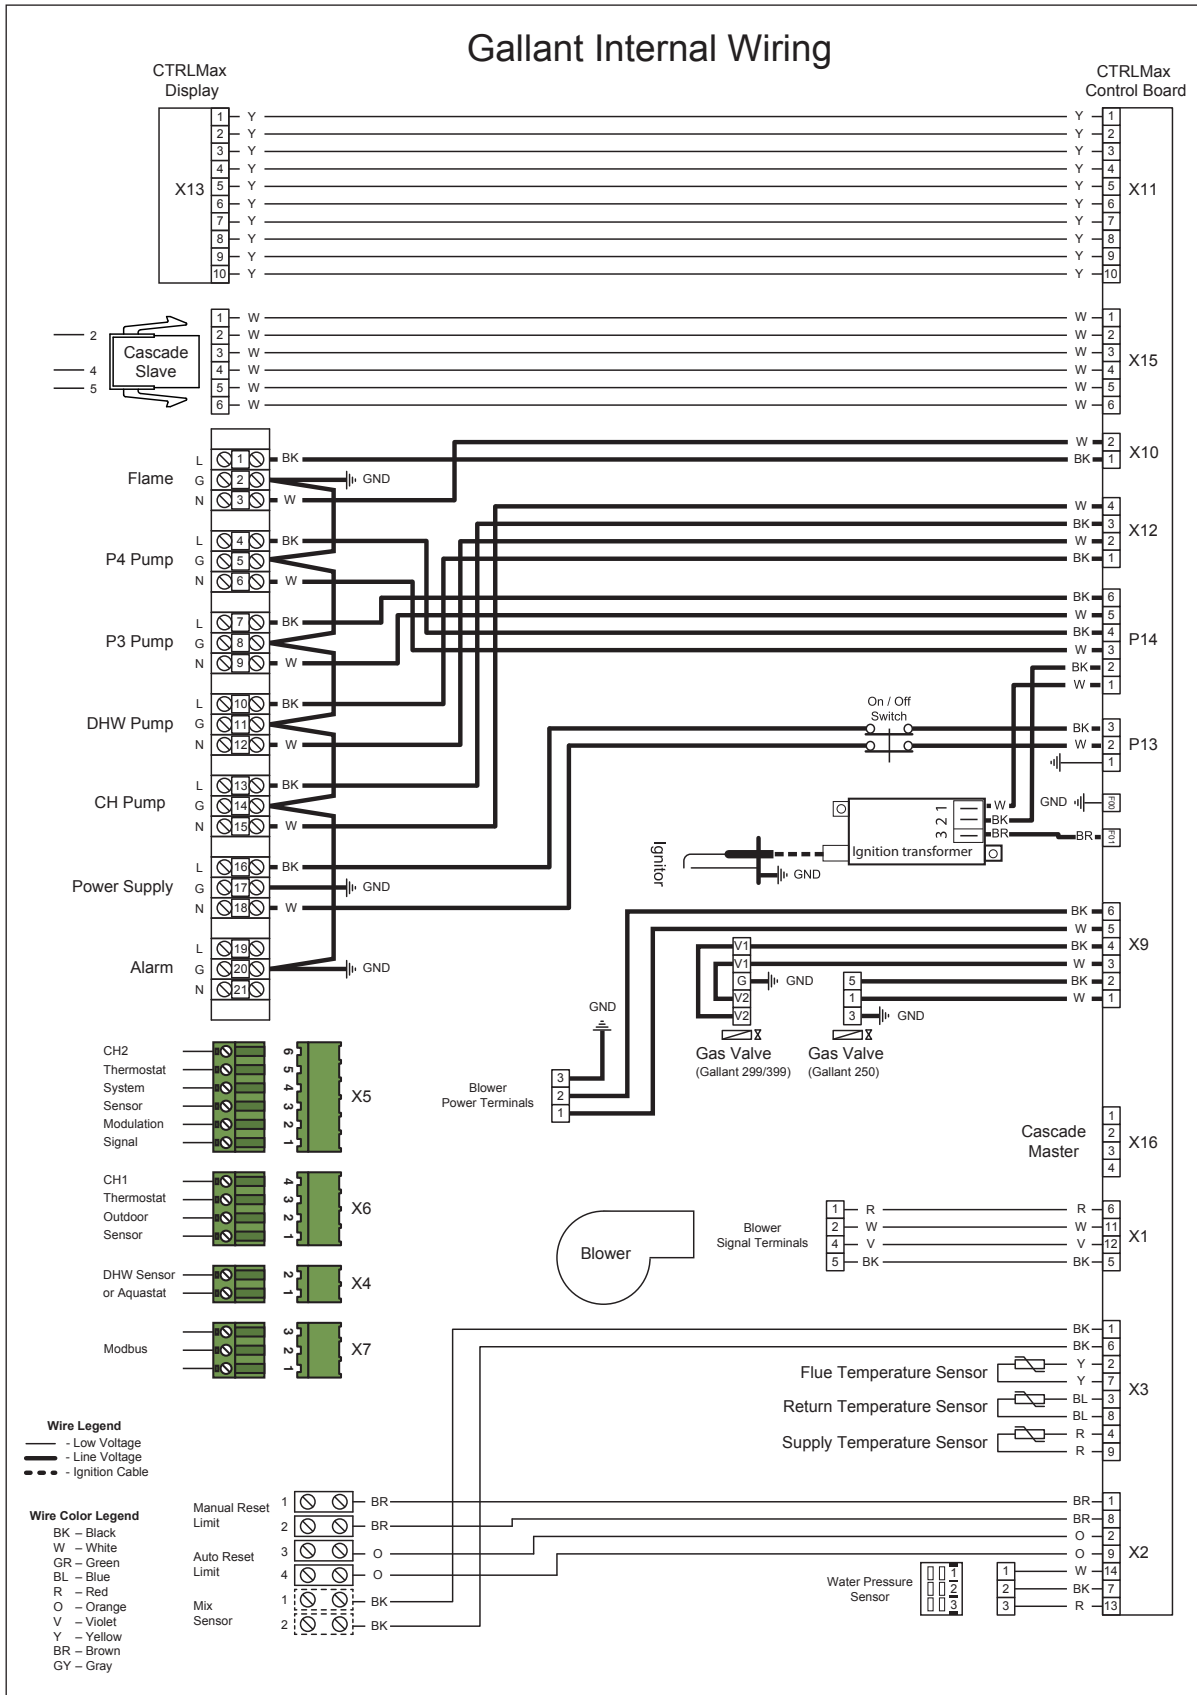

Fig. 19 - GALLANT Boiler Factory Wiring
- The CTRLMax control module contains 3 internal replaceable 5A fuses as shown in *Figure 19 below*.